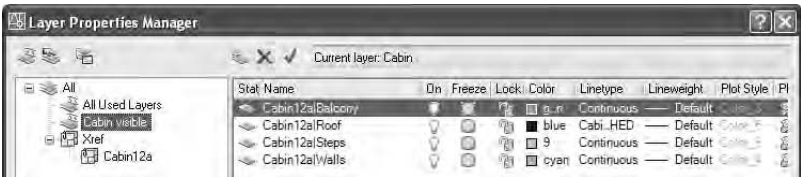

FIGURE 12.11: The result of the Cabin Visible filter in the Layer Properties Manager dialog box
10. Click All in that list. All layers are listed. Then click Cabin visible. Only the four layers we didn't freeze are listed (see Figure 12.11).